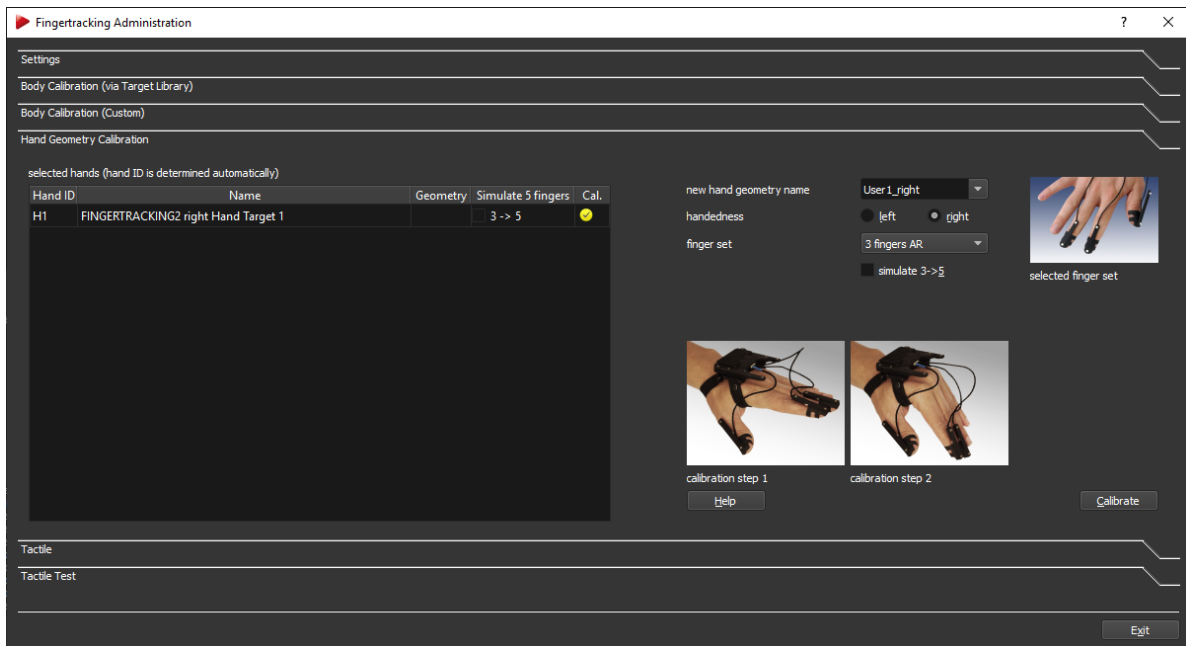

Figure 9.39: Fingertracking Administration - Hand Geometry Calibration
- all fingers have to be stretched out (see left picture in dialog, refer to figure 9.39 on page 155)
- keep the fingers stretched out (see right picture in dialog, refer to figure 9.39 on page 155)